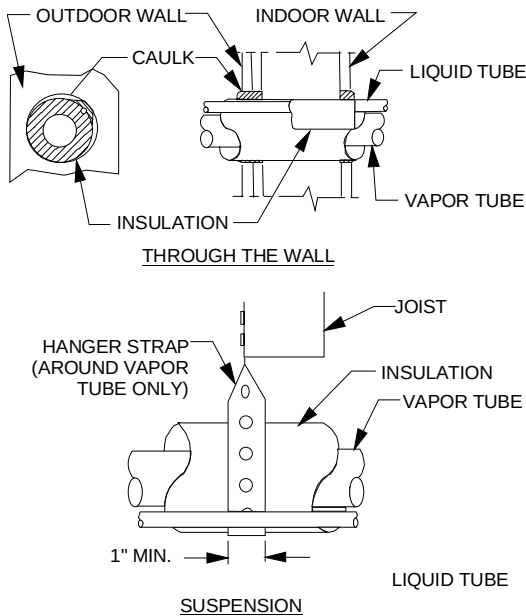

Figure 2
- Seal the holes where the refrigerant piping enters the building and support piping as necessary (see Figure 2).